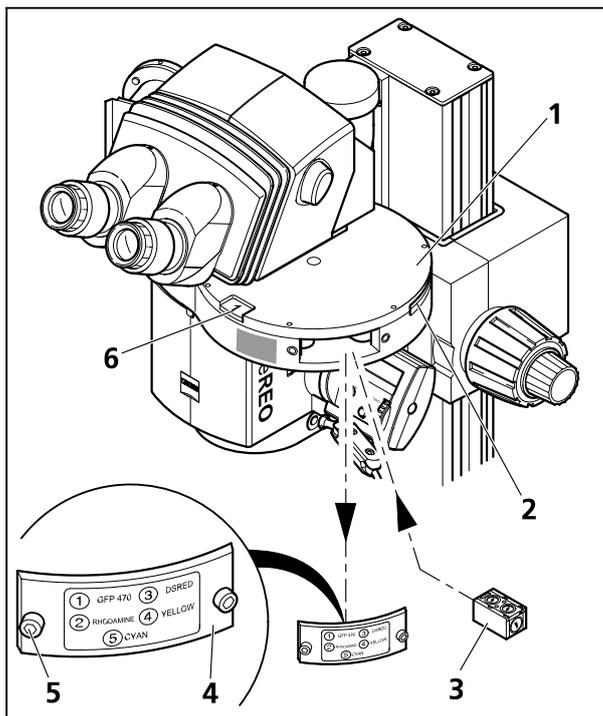

Fig. 22 Inserting filter blocks
- Unscrew the objective (Fig. 22/3) from the microscope body.
- Insert the coaxial epi-illumination S (Fig. 22/2) with the guide pin (Fig. 22/4) facing upward into the drill hole underneath mount S (Fig. 22/1).
- Screw both screws of the coaxial epi-illumination (Fig. 22/5) through the drill holes **A** (Fig. 22/5) into the mount S.
The filter position swung into the light path is displayed in the read-out window (Fig. 22/6). To move this filter position into the installation aperture, turn on the filter wheel counterclockwise by two positions. Affix the supplied self-adhesive labels for the filter combinations to the cover (Fig. 22/4) allocated to the corresponding position numbers.
- Undo both screws (Fig. 22/5) and remove the cover (Fig. 22/4) from the mounting aperture of the PentaFluar vertical illuminator (Fig. 22/1).
- Insert the filter block (Fig. 22/3) in one of the five positions of the filter mount. To this end, push in the filter block through the installation aperture, until the magnetic fixation device catches the filter block and positions it in the correct place. When pushing the filter block in, take care that the barrier filters point up and the exciter filter points outward.
- Turn on the filter wheel at its knurling (Fig. 22/2) by one position and insert the next filter block.